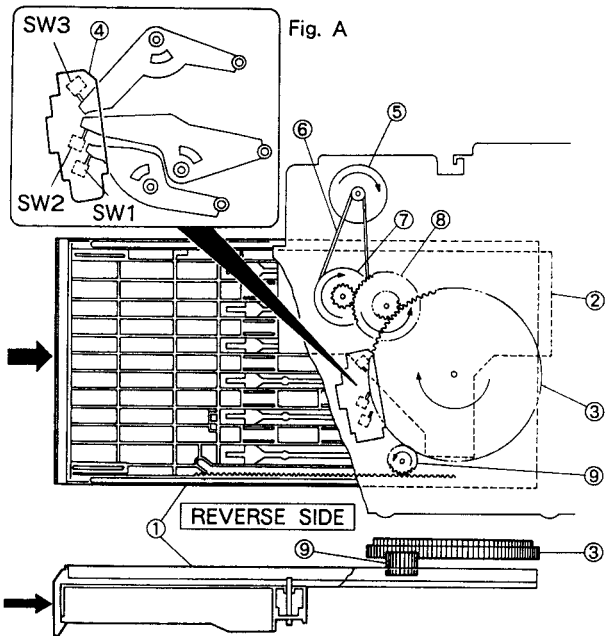

Fig. 10-1
As shown in Fig. 10-1, the cam gear ③ of the driving system operating the tray ① and drive plate ② has a cam which turns SW1 to SW3 of the tray SW unit ④ in Fig. A on/off.
When tray close operations are performed, the motor ⑤ rotates in the arrow direction as shown in Fig. 10-1, and its rotation force is transmitted to the pulley gear ⑦, drive gear C ⑧, cam gear ③, drive gear A ⑨ via the O/C belt ⑥, and the tray ① moves in the close direction (arrow direction).